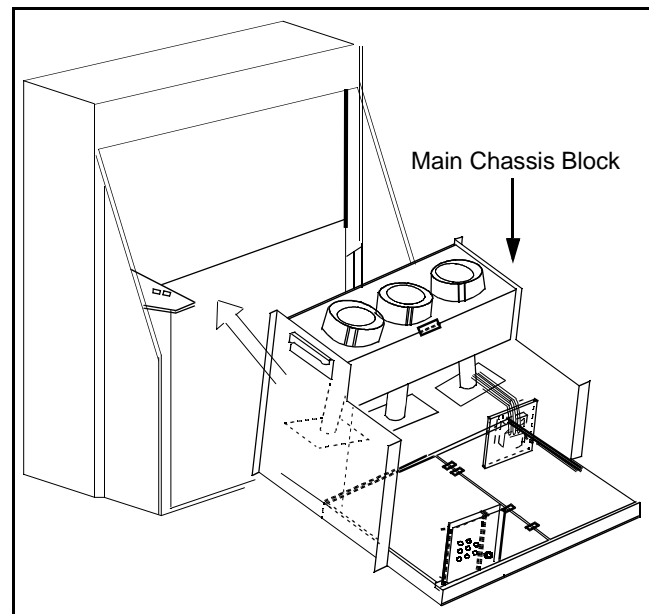

Figure 11. Chassis Removal
Main Chassis Block (Fig. 11)
1. Remove the main chassis block from the cabinet. See Fig. 11.